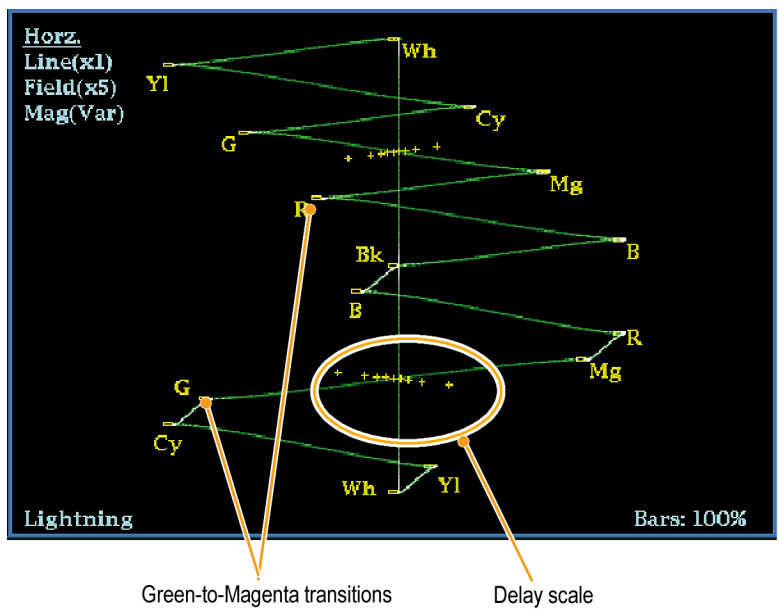

Figure 45: Determining transition intersections in the Lightning display
7. Determine where transitions intersect the delay scales and derive the timing error in nanoseconds, as deflected from the center mark, using the following guidelines. (See Figure 45.)